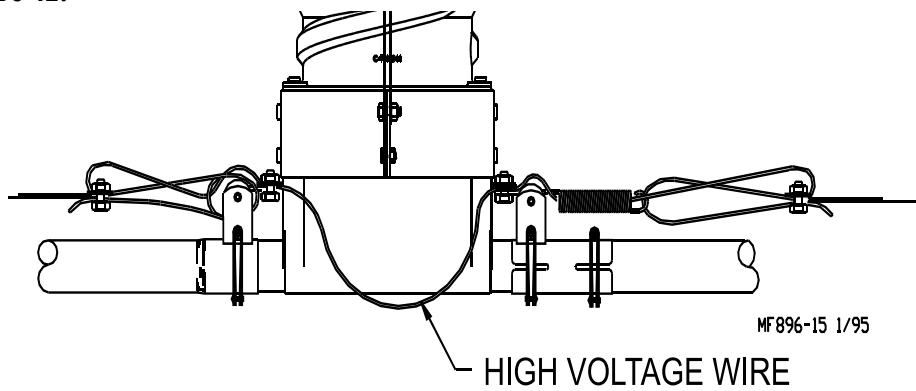

Figure 42. High Voltage Wire installation
13. Install the High-Voltage wire from the insulator on one side of the boot to the insulator on the other side of the boot. See Figure 42.